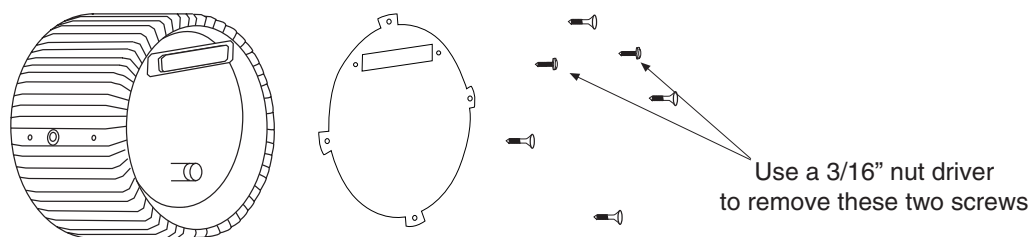

Figure 86. Removing the Back Panel
1. Remove the back cover of the camera (see Figure 86). It is secured by four Phillips-head screws and by the two connector slide-latch posts, which can be removed using a 3/16" nut driver.